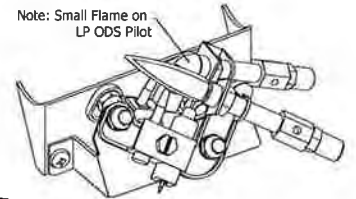

Fig. 18 - Pilot
6. With control knob depressed, push down on the ignitor button until the pilot lights. The pilot is located behind the fireplace screen, centered near the rear of the burner (See Fig. 18).
7. Keep control knob depressed for (30) seconds after pilot lights. Release control knob.